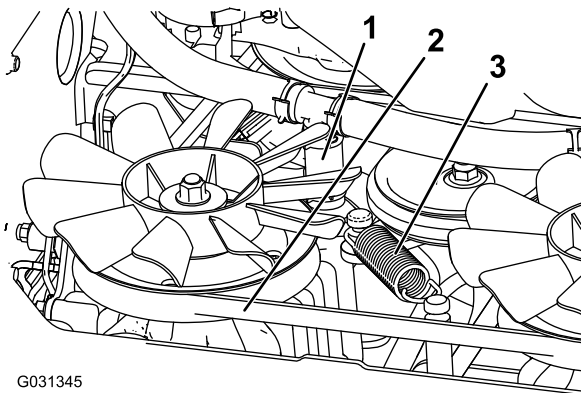

**Figure 70**
3. Locate the drain plugs in the bottom of the transmission and place a drain pan under the plug (Figure 70).